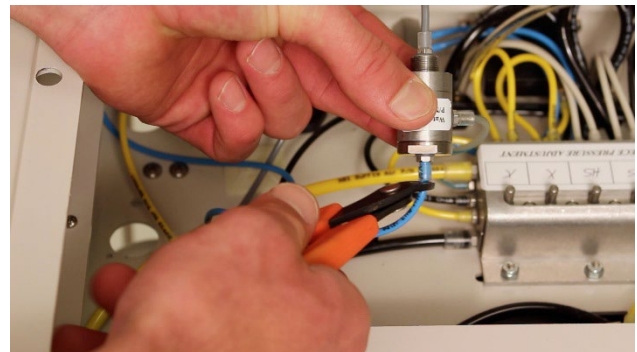

Fig. 4
- 5 Note the location of the blue water lines and the grey air signal line. Clip all the tubing close to the barbs. (Fig. 4)